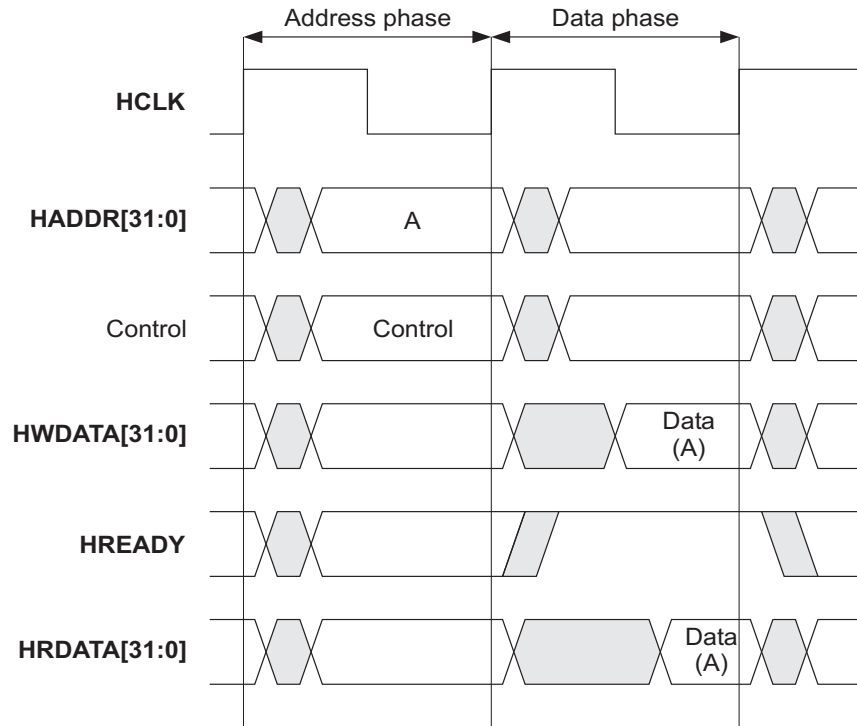

Figure 10: Simple Transfer
- Simple transfer (Figure 10 on page 39)